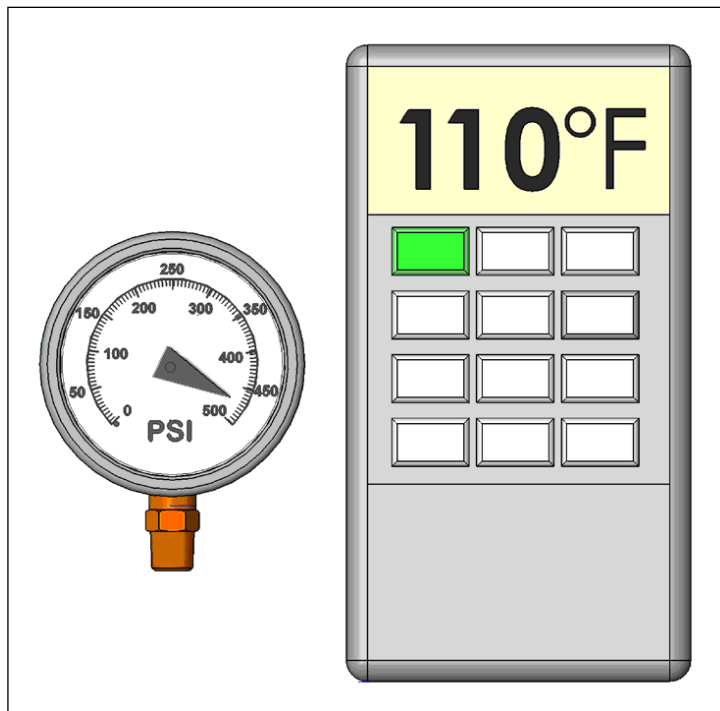

Figure 12. Maximum Operating Conditions (R-410A)
4. When “Water Out” temperature, is achieved (pressure < 475 psig for R-410A or < 350 psig for R-407C), adjust storage water tank temperature controller to turn compressor unit “OFF”. Reference Figures 12 and 13.
If the hot storage water tank temperature controller is adjusted for a high temperature setting, compressor discharge pressure should be checked and the storage water tank temperature controller adjusted appropriately to ensure that compressor discharge pressure does not exceed 475 psig for R-410A or 350 psig for R-407C. See Figures 12 and 13.